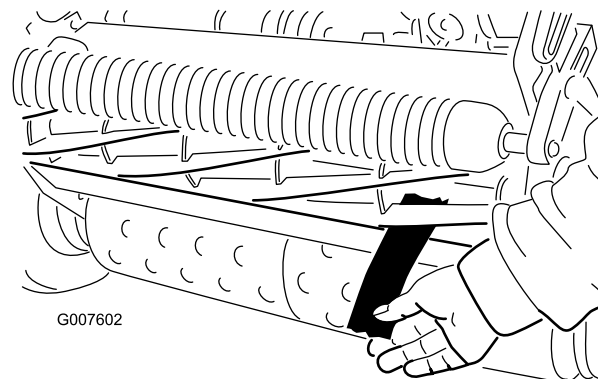

Figure 46
4. On one end of the front side of the reel, insert a long strip of newspaper between the reel and bedknife (Figure 46). While slowly rotating the reel forward,
6. After the adjustment is accomplished, check to see if the reel can pinch paper when inserted from the front and cut paper when inserted at a right angle to the bedknife (Figure 46). It should be possible to cut paper with minimum contact between the bedknife and the reel blades. Should excessive reel drag be evident (more than 0.79 N-m (7 inch-lb)), either backlap or grind the cutting unit to achieve the sharp edges needed for precision cutting; refer to the *Toro Reel Sharpening Manual*.